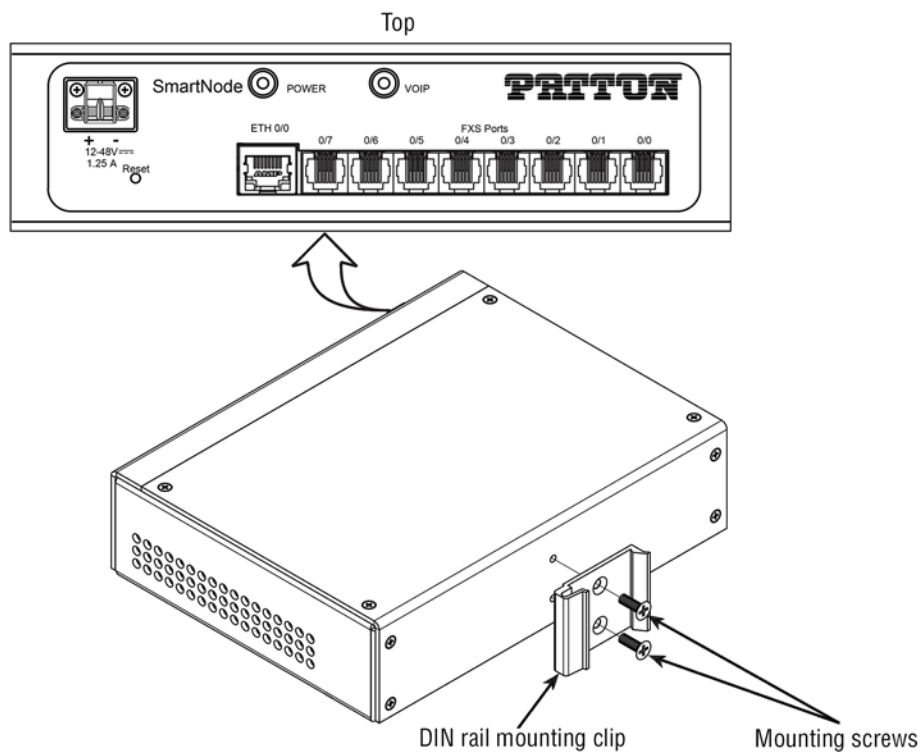

Figure 26. DIN rail mounting clip location
1. With the SmartNode device oriented top side up, place the mounting clip as shown figure 26.